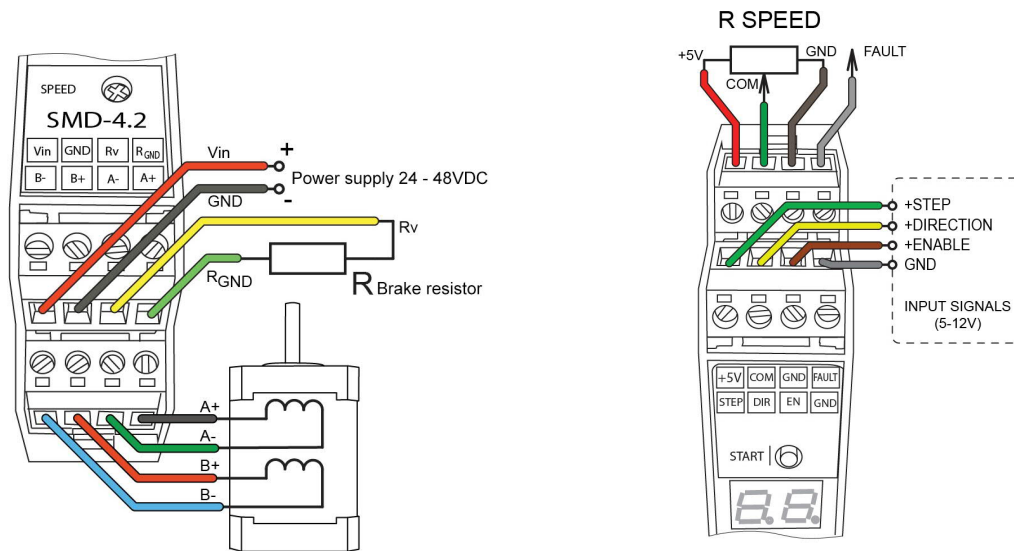

Fig. 1. Terminals of the stepmotor driver SMD-4.2DIN
- connector A for a stepper motor phases connection (fig. 1);
- connector B for a power supply and external braking resistor connection (fig.1);
- connector C for connection of control signals STEP, DIR, ENABLE (fig.1);
- connector D for connection of an external potentiometer or source of analog signal 0...+5VDC – to analog speed or position control, and for connection of the output signal FAULT (fig.1);
- internal potentiometer SPEED for analog speed or position control (fig.1);
- 2-sign 7-segment display for indication of control modes, the driver state and alarm codes (fig.1);
In case of forced motor rotation at a speed 120...240 rpm (10 seconds average value at the desired interval from 0 to infinite), it is necessary to connect an external brake regenerative resistor  $R=5\text{ Ohm}$   $P=100\text{W}$ . The load resistor should be connected to the screw terminals «GND» and «RES BRAKE» (fig.1).